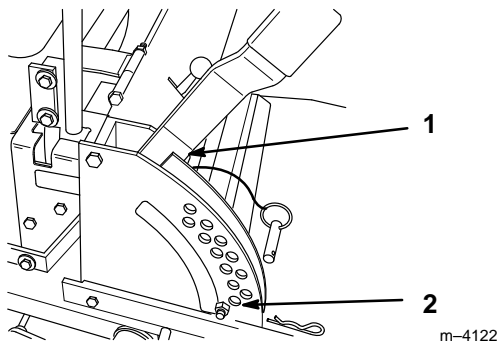
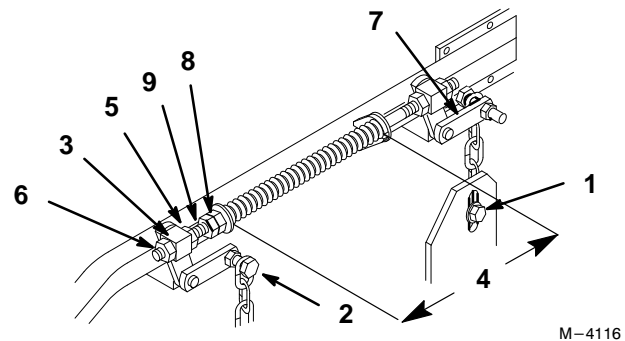

Figure 23
Figure 24
2. Check tire pressure of all four (4) tires. If needed, adjust to 13 psi (90 kPa)
4. Raise the deck to the transport position (Fig. 23). Take force off of the two large deck lift springs by loosening jam nut and front spring nut, in front of each spring, as far as possible (Fig. 24).
5. Place two 1-3/8" (35 mm) thick blocks under rear left and right lower edge of mower. Place one 1-3/4" (44 mm) block under front center lower edge of mower. Not under anti-scalp roller brackets. Lower mower to the 1-1/2" (38 mm) height-of-cut position (Fig. 23).
6. Loosen bottom chain bolt in slot at rear of deck. Repeat for opposite side. (Fig. 24).
7. Loosen front and rear locking nut on either side of front swivel. Loosen until front chains are loose and deck is supported by blocks. Repeat for opposite side. (Fig. 24).
8. When hardware is loosened, remaining tension in the large support springs will tend to rotate the deck lift handle up, out of the 1-1/2" position. Press down on the rear deck support arm to firmly return the deck lift handle to the 1-1/2" position (Fig. 24).
9. While continuing to press down on rear deck support arm, take the slack out of the rear chain and tighten hardware at the bottom (Fig. 24). Downward pressure may now be released. Repeat for opposite side.
14. Raise deck lift lever to the transport position, (Fig. 23).
15. Adjust compression springs by turning the front spring nuts so the distance between the two large washers is 10-1/4" (260 mm). Then tighten jam nut (Fig. 24).